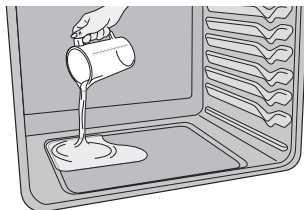

Figure 20: Add 1 cup of tap water
3. Pour 1 cup of tap water onto the oven bottom.(Figure 20) Close oven door.